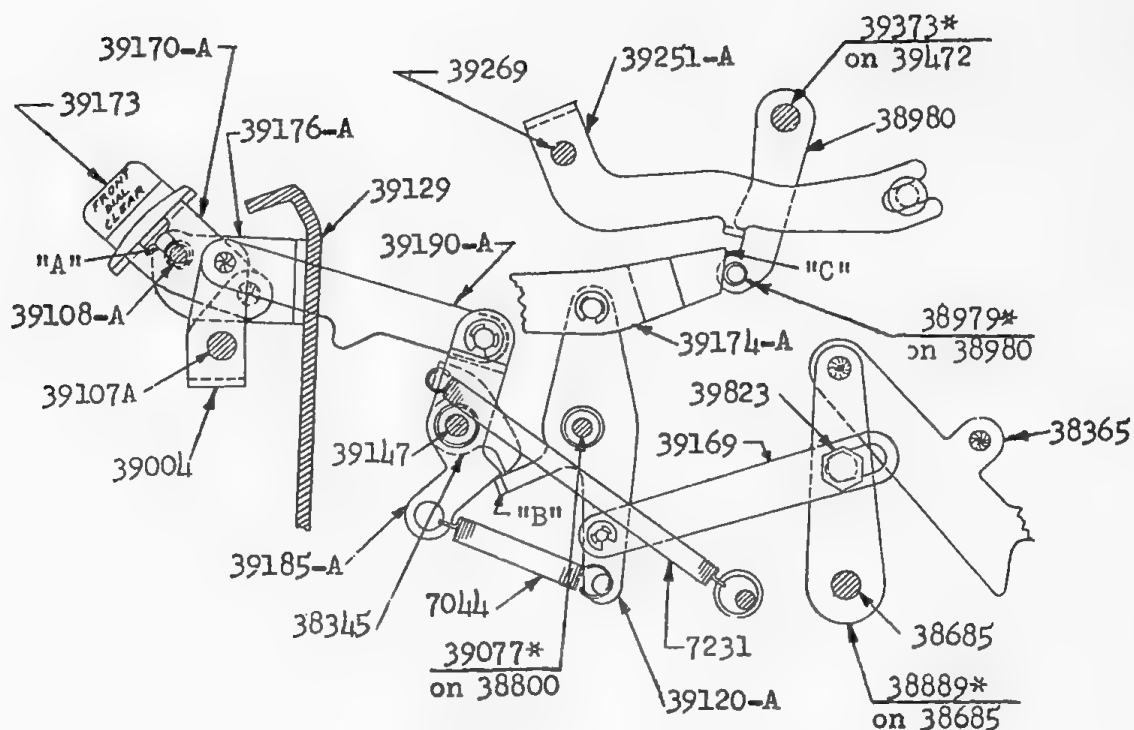

FIG. 64
A. (Fig. 64). The Front Dial Clear Keytop 39173 is mounted on the Key Stem Bail-39170A. The two arms of 39170A are connected to the Control Bail-39004. When the Key 39173 is depressed, Keystem 39170A slides down Shaft 39108A by its slots "A", thereby causing the Control Bail-39004 to be rocked clockwise.
C. (Fig. 64). The Front Dial Clear mechanism is restored by Link-38365 through Eccentric-39823 and Restore Link-39169. If the key is held depressed during the Restore Cycle the ear "B" on 39120A comes to rest on Block-38345 which has been provided